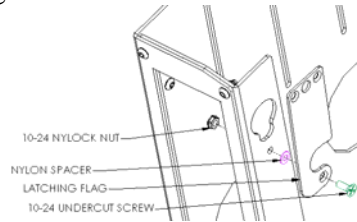

Figure 4
2. Attach latching flag to mount using the 10-24 Phillips flat head screw, Nylon washer, and Nylock nut (see Figure 4). Tighten until friction will hold the flag in place.